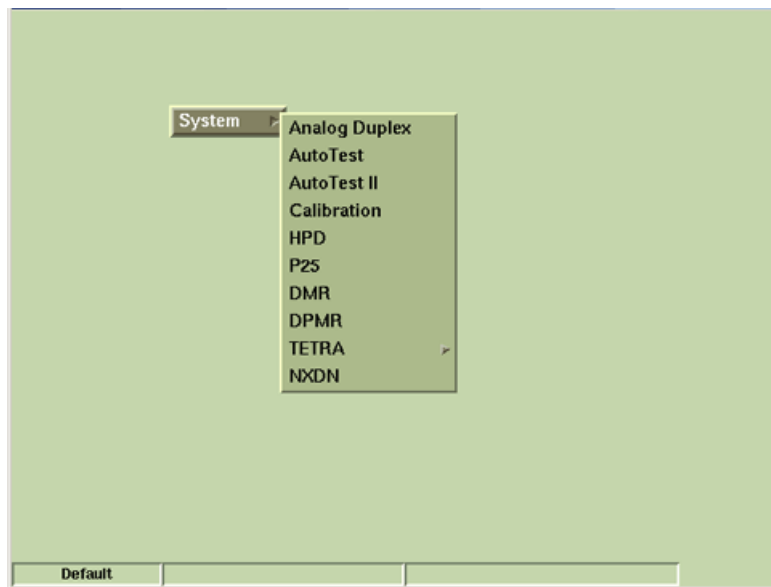

Fig. 3-3 Factory Default Display Tile
7. A "Loading Defaults" message is displayed during remainder of power-on sequence. Test Set displays the Factory Default Tile (Fig. 3-3) when the power-on sequence is completed.